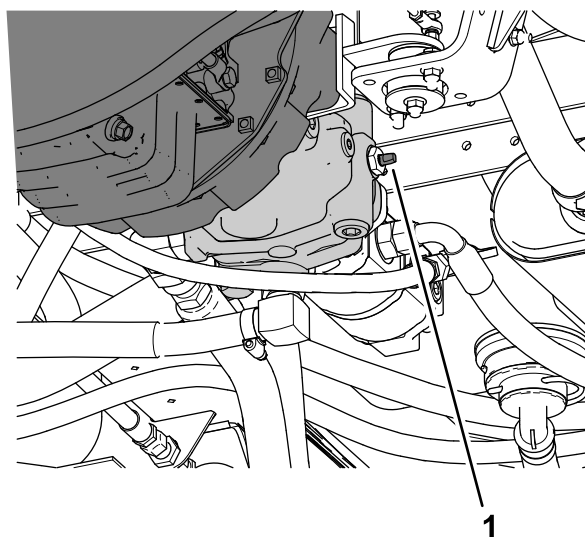

Figure 56
3. Rotate the tow valve (Figure 56) 90° in either direction to open the tow valve.